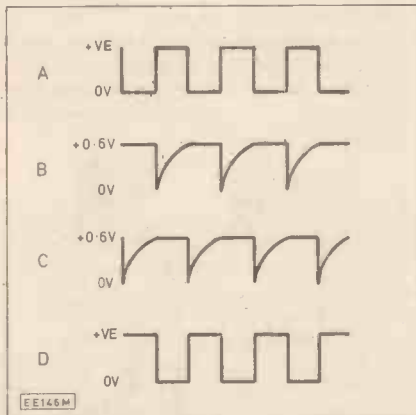

Fig. 6. Oscillator waveforms.
At this time the voltage at point B will be zero as the capacitor, C2, charging through R3, cannot charge instantaneously. This means that the base of TR1 is at a low voltage and is therefore cut off. When C2 charges sufficiently to turn on TR1, TR2 will become cut off and the cycle starts again. The waveforms produced by this type of circuit are shown in Fig. 6. The switching time (T) for the simple transistor oscillator is dependent on the charge times for C1 and C2 through R2 and R3 respectively and the duration of one cycle is given by: